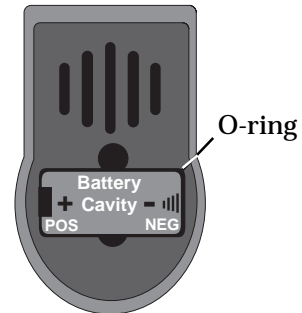

Fig. 79 - O-ring Installation
- To replace the battery hatch o-ring, lightly lubricate it with silicon grease and place it on the beveled outer edge of the battery compartment (Fig. 79). Ensure that it is evenly seated.